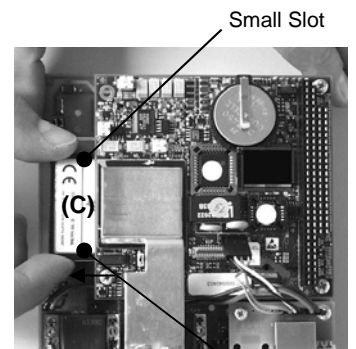

Figure 9.
2. As per Fig. 9 and 10 respectively the CompactFlash and the battery respectively can be changed, now.